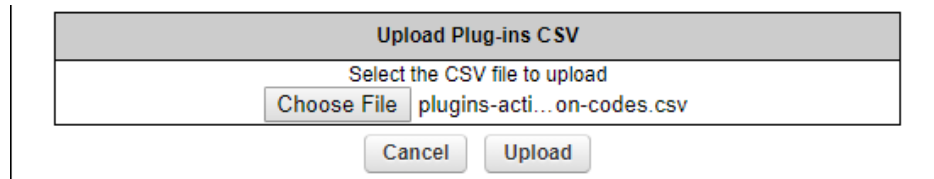

Figure 72. MANAGE PLUG-INS DIALOG (Upload Plug-ins CSV section)
7. Upload the *.CSV file to the unit by clicking the **Choose File** button in the **Upload Plug-ins CSV** section (Figure 72 (page 152)) and following the software prompts.